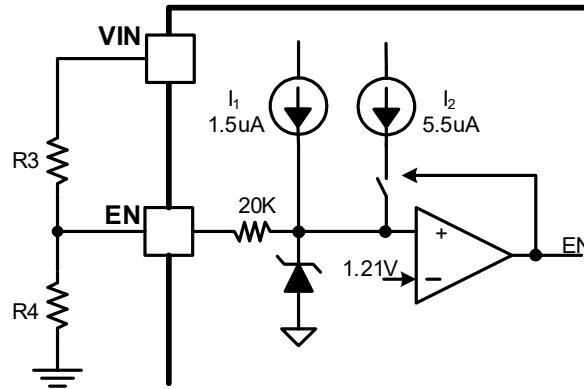

Figure 7. Adjustable VIN UVLO
An internal 1.5uA pull up current source connected from internal LDO power rail to EN pin guarantees that floating EN pin automatically enables the device. For the application requiring higher VIN UVLO voltage than the default setup, there is a 5.5uA hysteresis pull up current source on EN pin which configures the VIN UVLO voltage with an off-chip resistor divider R3 and R4, shown in Figure 7. The resistor divider R3 and R4 are calculated by equation (3) and (4).